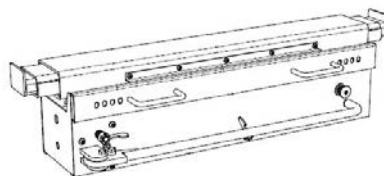

Fig.1
3. BESCHRIJVING HEFBRUGKRIK (zie Fig.1)